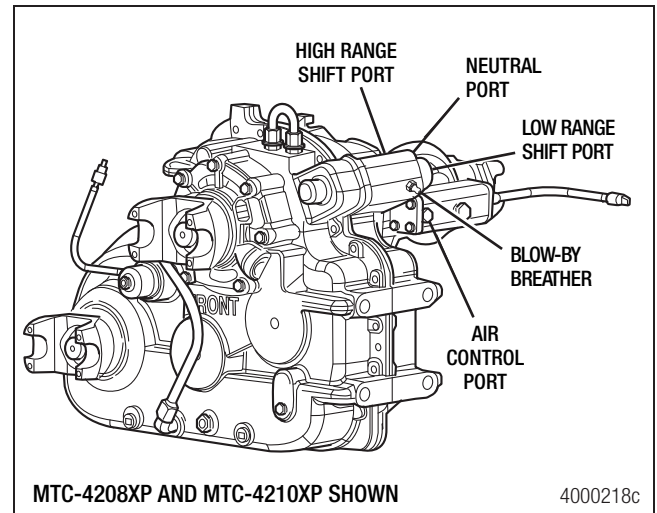

Figure 7.50
4. Apply 60 psi (4.14 bar) or greater of air pressure to the high-range shaft air port. Figure 7.50.
7. Apply 60 psi (4.14 bar) or greater of air pressure to the low-range shaft cylinder air port. Figure 7.50.
10. For PTO-equipped cases, apply 60 psi (4.14 bar) or greater of air pressure to the neutral shift location. Figure 7.50.